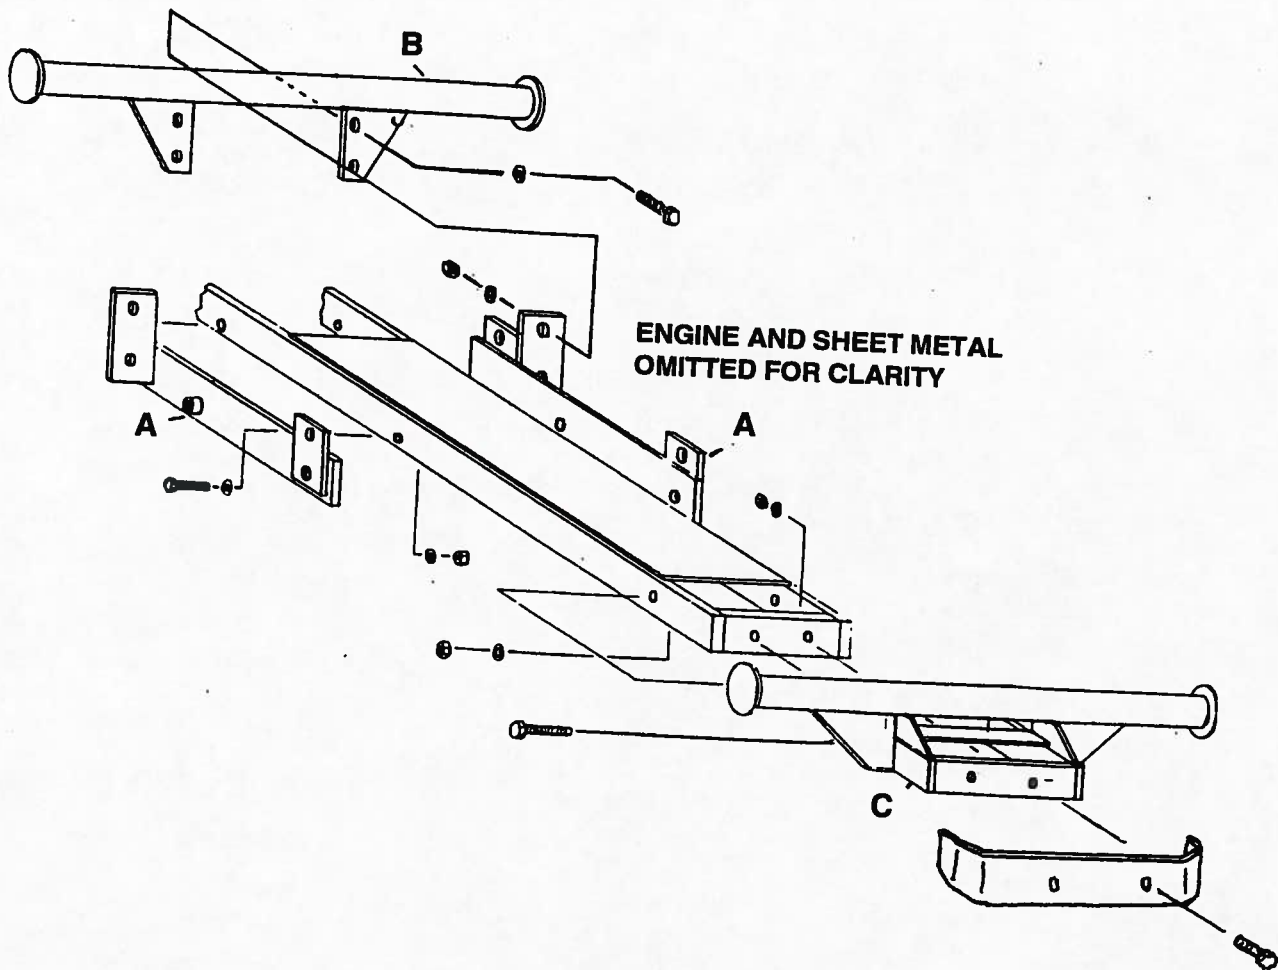

Figure 2
1. Attach left and right mower mounting brackets, A, Figure 2, with four $3/8$ " x 2" bolts and $3/8$ " nuts and lock washers on each side.
2. Attach rear loader mounting bracket, B, Figure 2. On the 72 Series tractors, the rear mounting bracket is one complete part. Slide bracket over the tractor's frame and attach to left and right mounting bracket using four $1/2$ " bolts with appropriate nuts and lock washers.
3. Attach front mount, C, Figure 2.